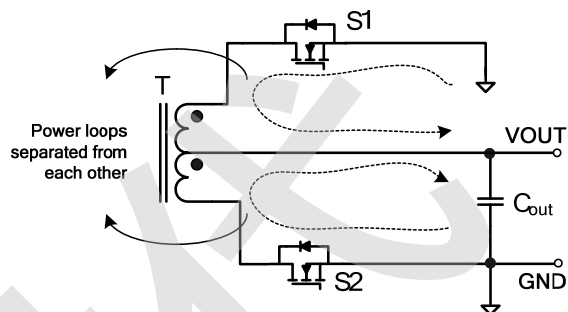

Figure 10: System Power Loop
1. Place a decoupling capacitor no smaller than $1\mu\text{F}$ from V_{DD} to PGND close to the IC for adequate filtering (see Figure 10).
1. Keep the two channels' power loops separated from each other (see Figure 10).